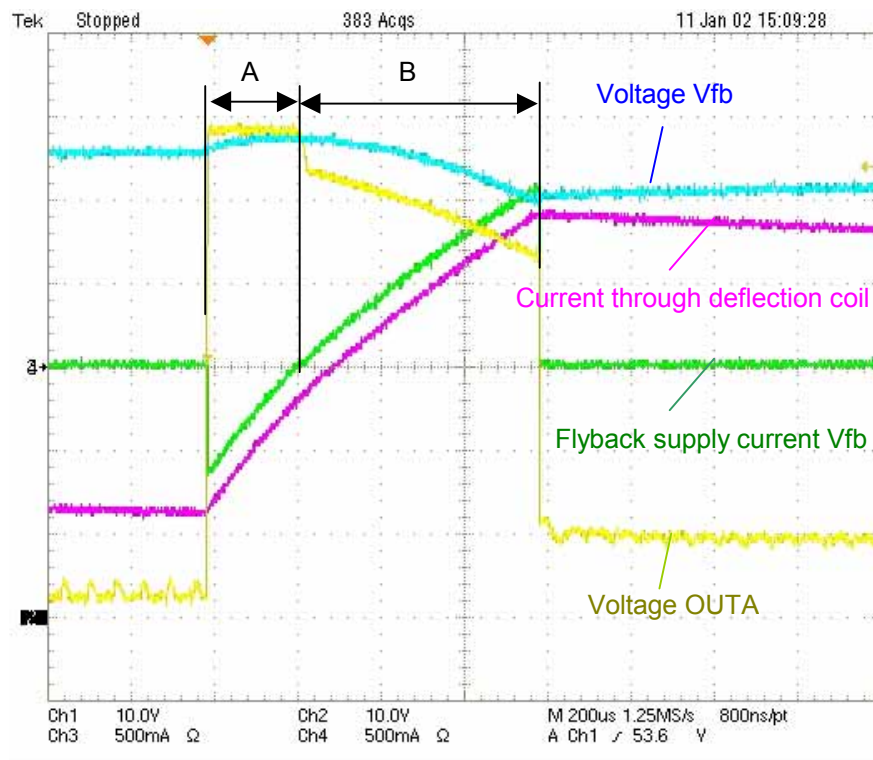
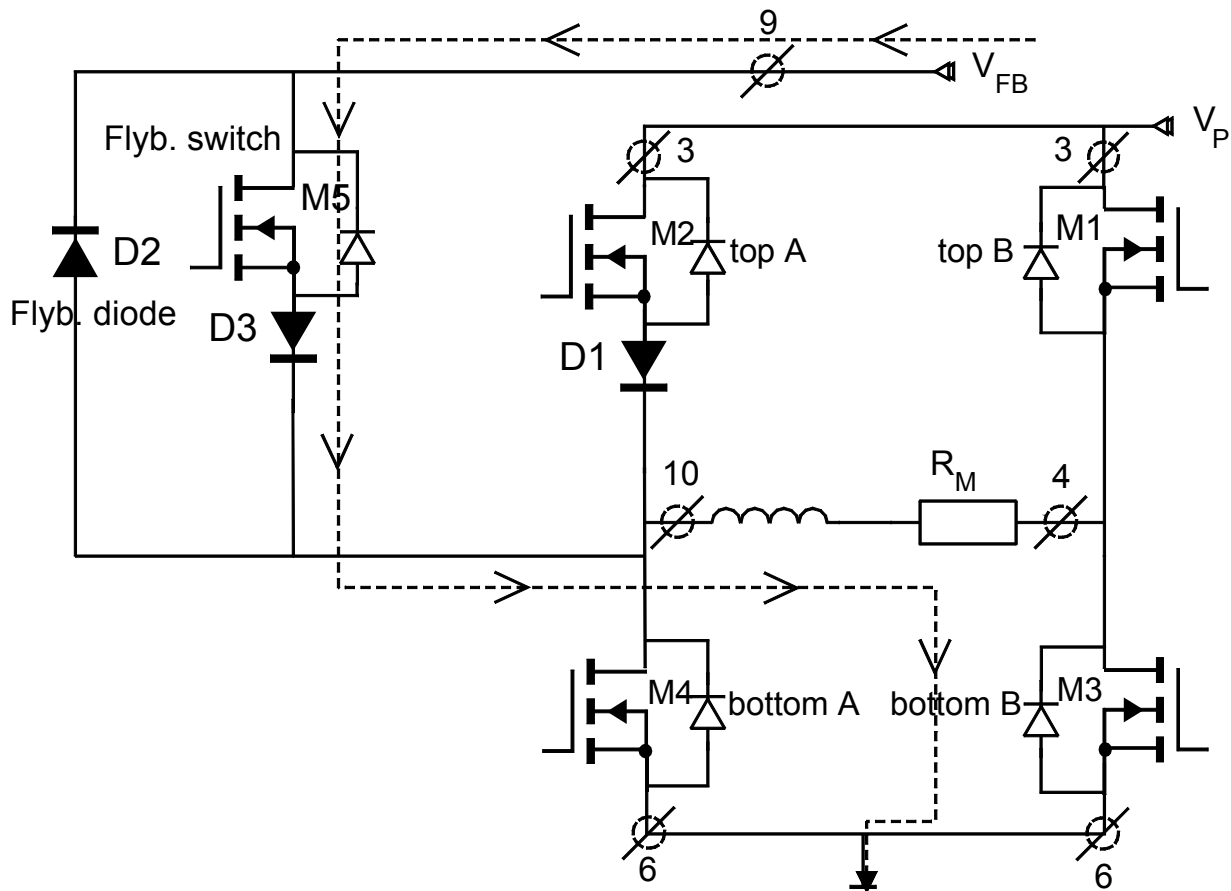

fig 17: Waveforms during flyback.
fig 19: Current path in second part of flyback.
The flyback can be divided in part A and B, see fig 17. Due to the high voltage across the coil and the influence of the damping resistor, the first part A has a short duration. Part A ends when the current in the deflection coil becomes zero.
The voltage at the output (pin 10) increases and the flyback diode D2 conducts. This output voltage becomes about 2 Volt higher than the flyback supply voltage (=voltage across diode D2), see fig 17. The current is fed into the flyback supply capacitor.
The second part, part B of the flyback pulse, starts when the current in the deflection coil crosses the zero level, see fig 17. Now, the current in the deflection coil is supplied by the flyback voltage supply and the flyback switch (M5) conducts. The current flows via the flyback switch (M5), the internal diode (D3), the deflection coil, the measuring resistor R_M , via the bottom MOSFET of stage B (M3) to ground, see fig 19. (Due to a voltage loss across the flyback switch (M5) + the internal diode (D3), the output voltage at pin 7 is about 8 V lower than the flyback supply voltage. This voltage drop depends on the current in the coil; a higher current means a higher loss and thus a higher voltage drop.
- The internal voltage loss of the current path between pins V_{FB} and OUTA. So the voltage loss across the flyback switch M5 and diode D3; $V_{loss(FB)}$. See fig 19.